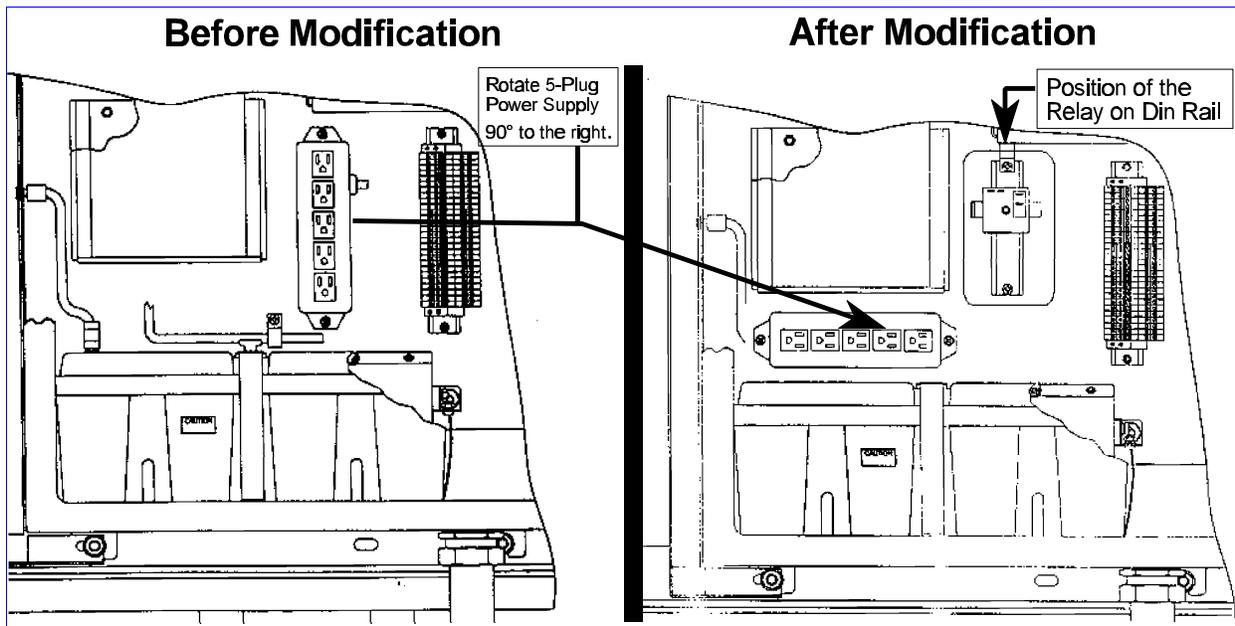

Figure 1 SCA Modification Diagrams for SCA SSTDR, DOM, and UPSBC Installation
6. Using the power outlet strip as a template, place the power outlet strip above the battery compartment (as in figure 1) and mark where the two holes will need to be drilled for remounting.
11. Install the SCA SSTDR assembly (7A1A1A13-K1) and the 5-plug power outlet strip, as shown in figure 1, using machine screws (P/N MS51957-45), flat washers (P/MS15795-807), and lock washers (P/N MS35338-137), hardware saved from the removal of the power outlet strip **and** self-tapping screws (P/N MS51861-45C), flat washers (P/NMS15795-808), and lock washers (P/N AA55610-138) where holes were drilled.